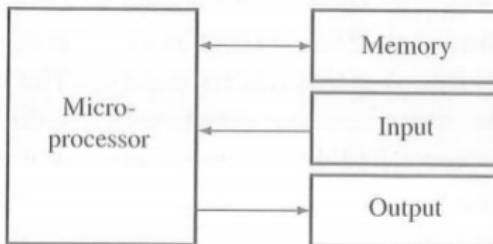

Figure 1: A programmable machine or microcomputer
- A typical programmable system/microcomputer is shown in figure 1